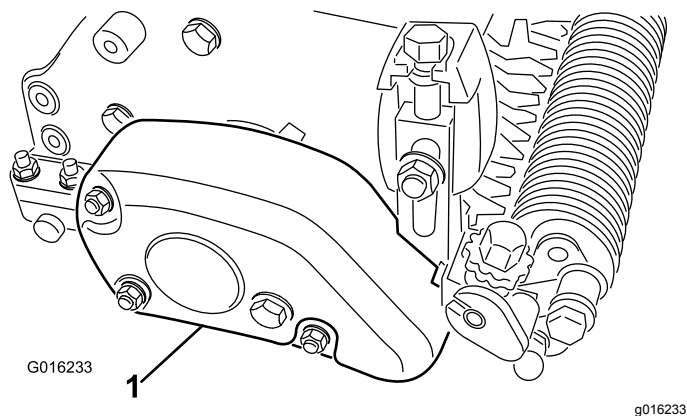

Figure 18
37. Mount the belt cover to the groomer housing assembly with 3 locknuts (Figure 18).